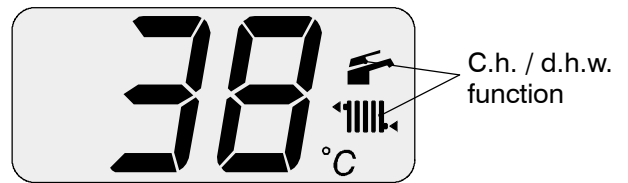

Fig. 11.3
- 6 Set the boiler in c.h. / d.h.w. function as illustrated in Fig. 11.3